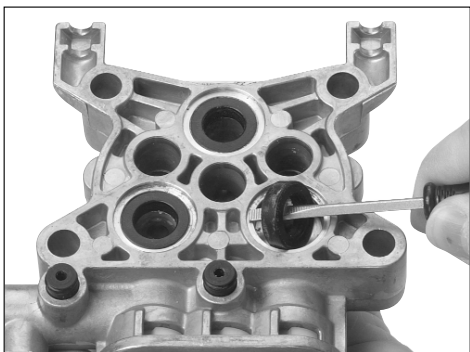

figure 12
3. Turn the pump head over and carefully remove the three high pressure seals. (figure 12)
- Fill groove with silicone grease. (figure 12)